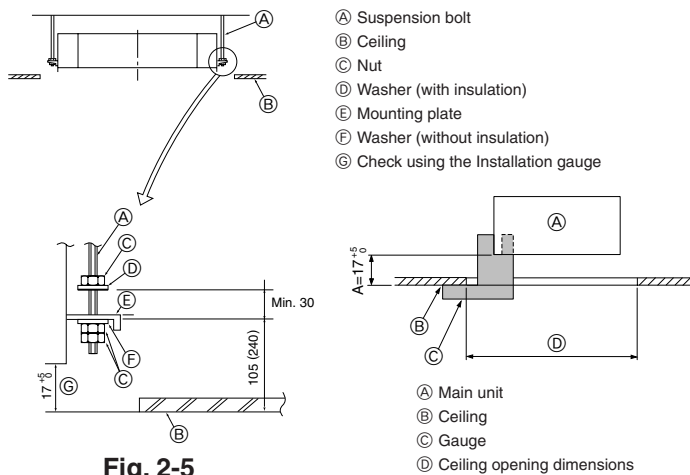

Fig. 2-5
2.5. Unit suspension procedures (Fig. 2-5)